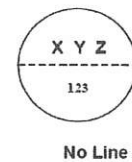

Figure A19 / Rajah A19
19. The line in the symbol shown in Figure A19 below refers to: